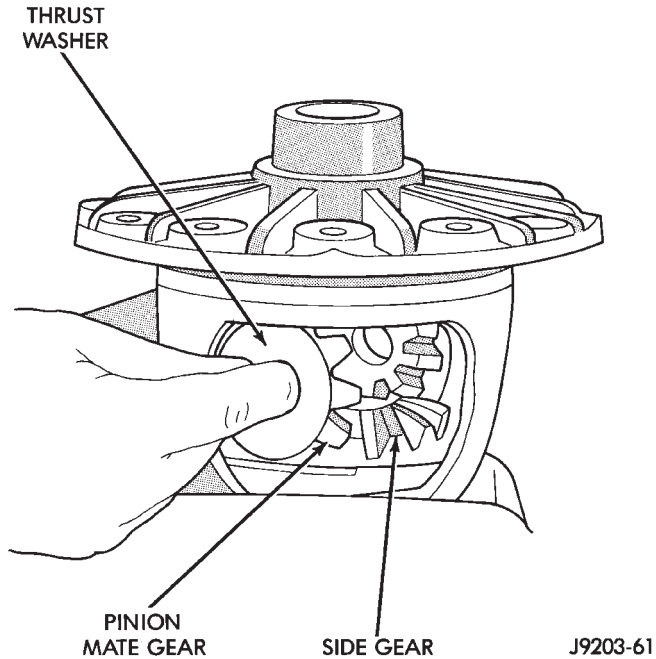

Fig. 50 Pinion Mate Gear Removal
(2) Remove pinion gear mate shaft.
(3) Rotate the differential side gears and remove the pinion mate gears and thrust washers (Fig. 50).